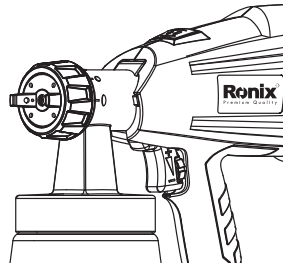

Fig4
■ ADJUSTING THE DESIRED SPRAY SETTING (FIG. 4)